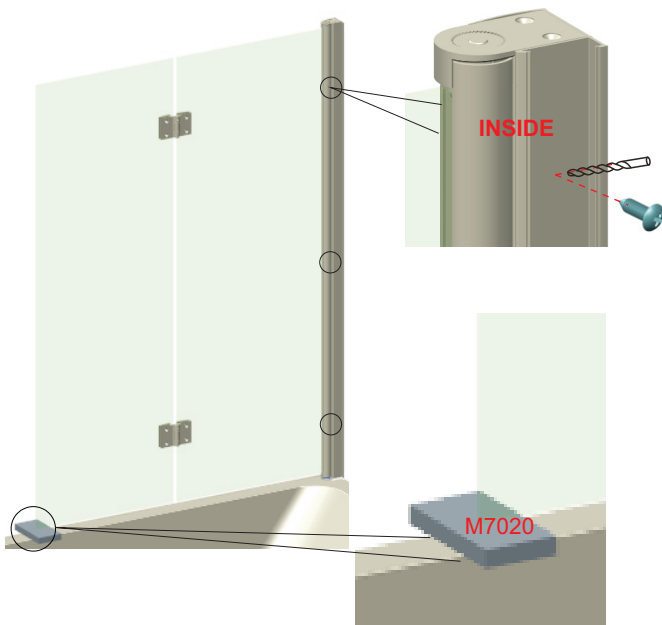

FIG 5
5. Drill 3 holes through the wall profile and fixed panel using a 3.0mm steel drill bit.(B08092) Using the screw, fix the screen upright profile to the wall profile in 3 places. **Fig 5.**